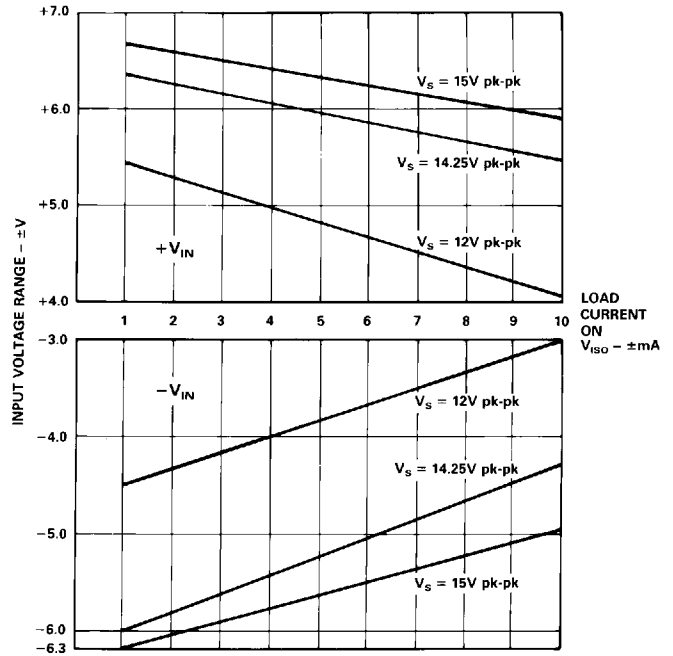

Figure 7. Input Voltage Range ( $\pm\text{V}$ ) vs. Load Placed on the Isolated Power Supplies (mA) and Clock Driver Voltage (V pk-pk)
**Input Voltage Rating.** The linear input voltage range for the AD208 is specified as  $\pm 5\text{ V}$ . This rating applies when the AD208 is powered by a 15 V pk-pk  $\pm 5\%$ , square wave (@ 25 kHz). The specified input voltage range is, however, affected by the clock driver voltage and the load placed on the AD208's front-end isolated power supplies. The variation of the input voltage range as a function of the isolated power supply load and the clock supply voltage are illustrated by the parametric curves in Figure 7.